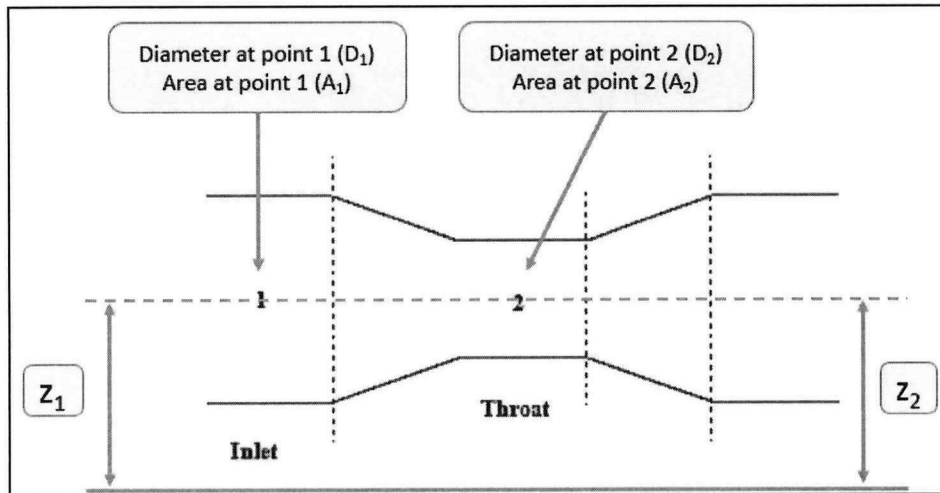

Figure Q4 (c)
- Q4** (a) State **three (3)** major forms of energy involved in a fluid flow. (3 marks)
- (c) Derive the volumetric flowrate equation, Q based on **Figure Q4 (c)** and the Bernoulli's equation.